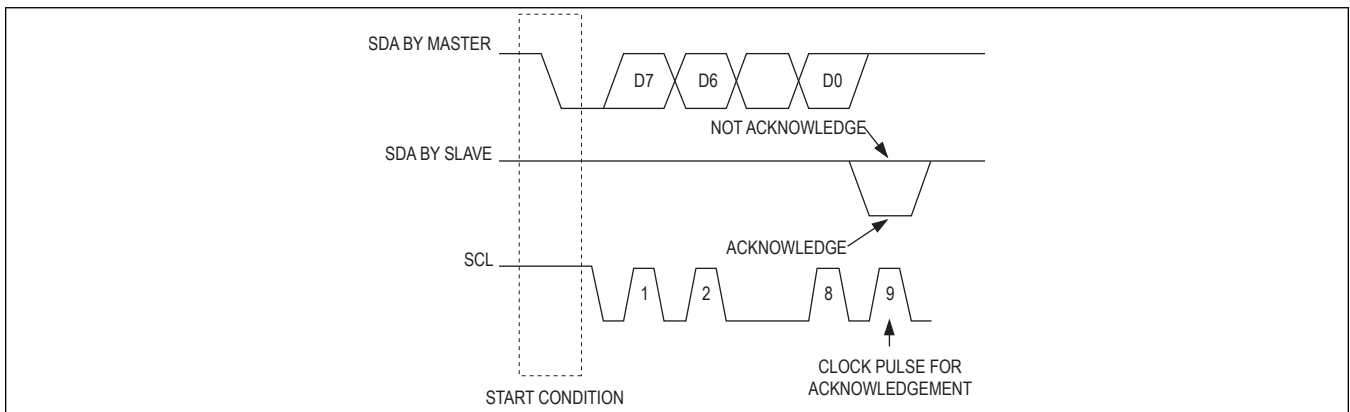

Figure 23. I²C Acknowledge
The acknowledge bit is used by the recipient to handshake the receipt of each byte of data (Figure 23). After data transfer, the master generates the acknowledge clock pulse and the recipient pulls down the SDA line during this acknowledge clock pulse. When the master transmits the data to the IC, it releases the SDA line and the IC takes the control of the SDA line and generates the acknowledge bit. When SDA remains high during this ninth clock pulse, this is defined as the not acknowledge signal. The master can then generate either a STOP (P) condition to abort the transfer, or a REPEATED START (Sr) condition to start a new transfer.